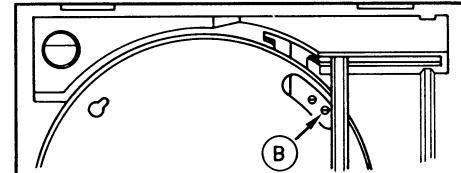

Figure 25
If the setting is off, turn and adjust eccentric pin (B) used for adjustments of the unit plate as shown in Figure 25.
- The adjustment procedure is the same as Steps 2 to 5 of (A).